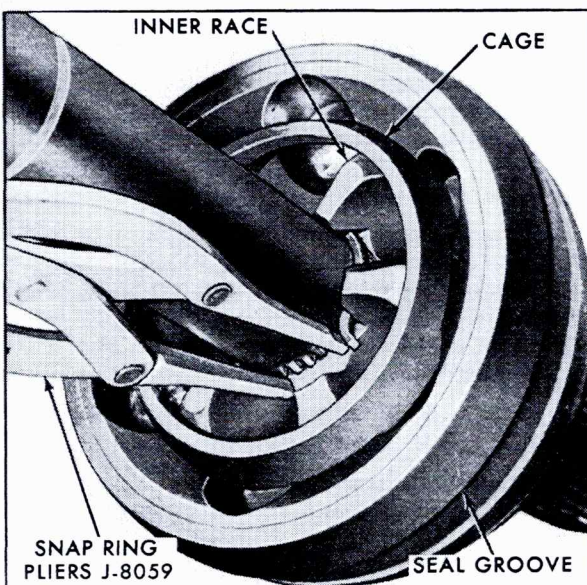

Fig. 3-60 Removing Outer Joint From Axle
4. Using Snap Ring Pliers, J-8059, spread snap ring and slide joint off axle spline as shown in Fig. 3-60.